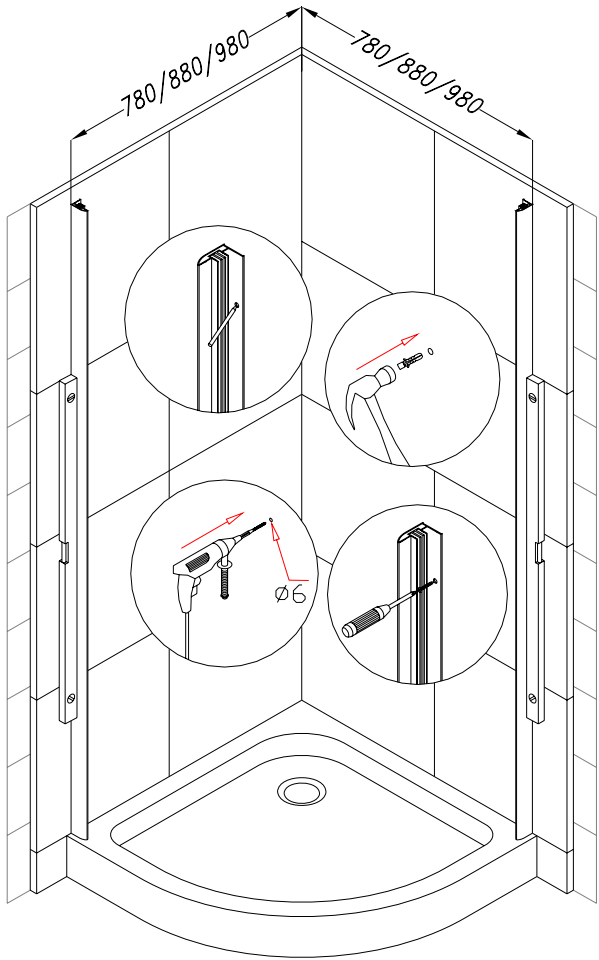

Fig 1
1. Start installation from either wall. Locate the **L-shape wall profile (1)** from the package then place it vertically above the tray 34 5/8" or 38 5/8" (refer to Diagram 1) from the corner to the external edge of the profile depending on the model. Using a level, adjust the L-shaped profile upright, then, use predrilled into aluminum profile holes to put on marks for drilling. Now drill the holes and insert the **wall anchors (15)** into the hole. Using **4X30 round head self-tapping screw (12)** to attach the Wall profile to the wall (fig 1).